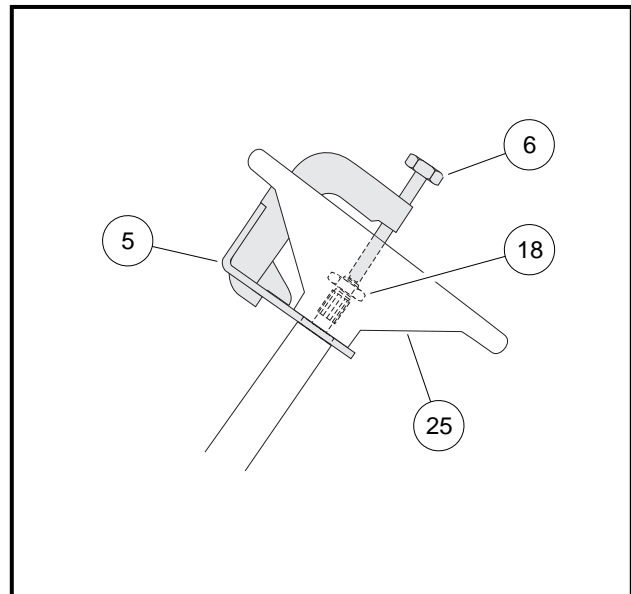

Figure 7-3 Steering Wheel Puller
- 5.3. Rotate the anvil screw (6) clockwise until the base plate contacts the bottom of the steering wheel where it attaches to the steering column (**Figure 7-3, Page 7-3**).